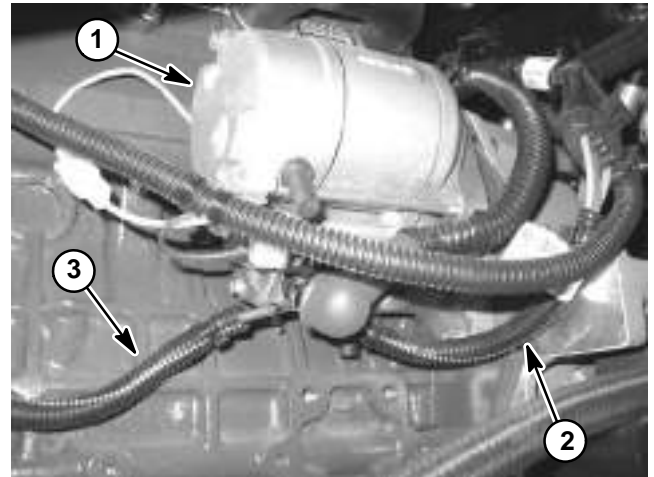

Figure 56
The Groundsmaster 360 uses four (4) fusible links for circuit protection. Two (2) of these fusible links are included in a three (3) wire harness that connects the starter B+ terminal to the wire harness (Fig. 56 and 57). An additional fusible link is used that connects the starter B+ terminal to the alternator B+ terminal (Fig. 56 and 58). The remaining fusible link is included in the wire harness and connects the starter G terminal to the engine run solenoid pull coil. If any of these links should fail, current to the protected circuit will cease. Refer to the electrical schematic and wire harness drawings in Chapter 9 – Foldout Drawings for additional circuit information.